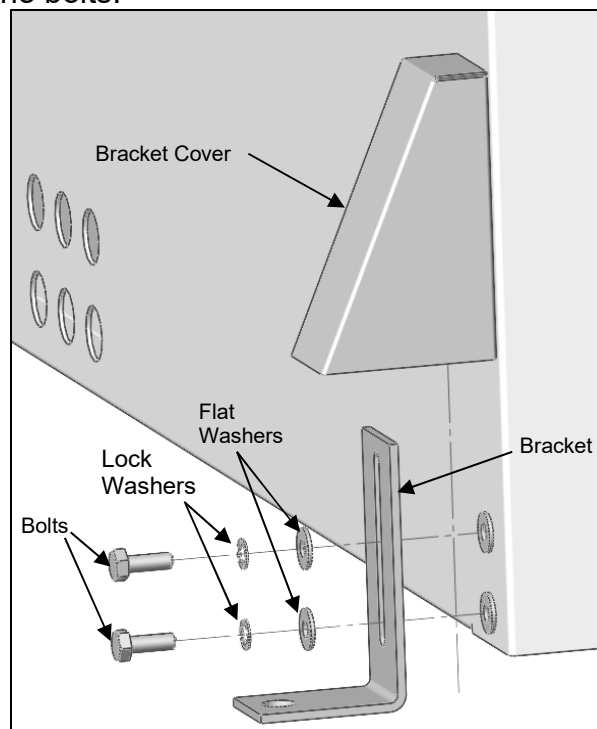

Figure 4: Rear Floor Anchor Brackets
- c. Attach the remaining two brackets to the rear corners of the rear skirt cover as shown in figure 4. With the bases of the brackets flush with the floor, tighten the bolts.